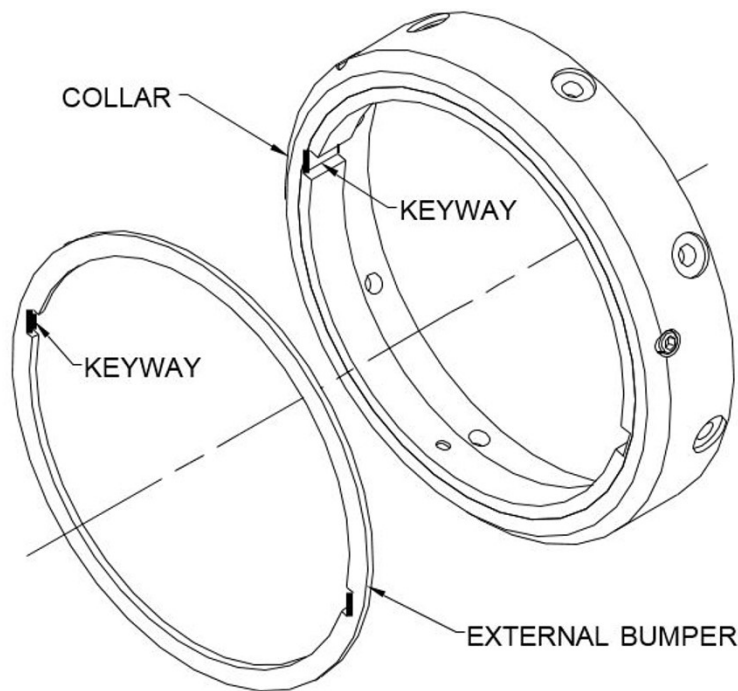

Figure 7-5 Replacing External Bumpers
5. Using a razor knife, notch out keyways in the external bumper to match those in the collar (Figure 7-5).